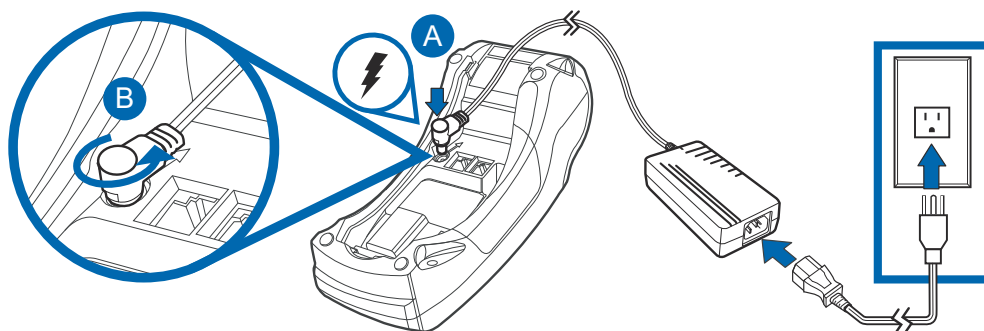

Figure 29 VX 520 D/E Power Pack Connection
- 2 Insert the round barrel connector (see Figure 29) into the power port.